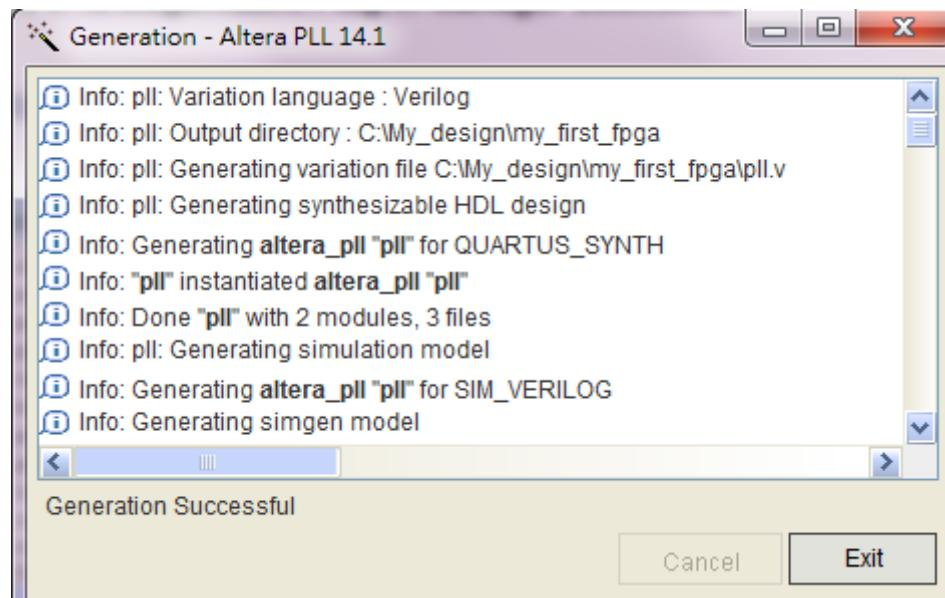

Figure 3-13 PLL Generation
8. Click Finish. It leads to **Figure 3-13**.Click Exit.